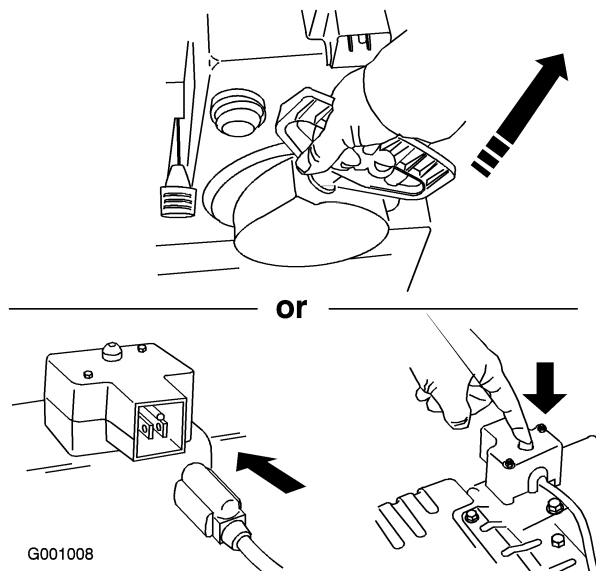

Figure 25
7. Start the snowthrower using the recoil starter or the electric starter (Figure 25).